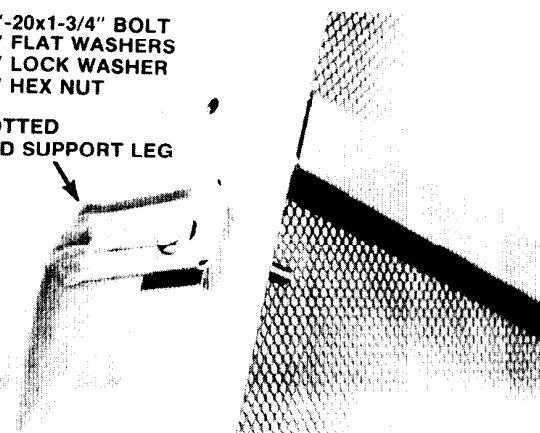

FIGURE 5
**STEP 1:** Attach support legs with slotted holes to rim of reflector at the center of each segment. Attach with 1/4"-20x1-3/4" bolts. Use flat washers on both sides and lock washers under hex nut. Two persons are required for this step. See Figure 5. **\* HOLES HAVE BEEN PUNCHED AT EITHER END OF ONE OF THE QUAD FEED SUPPORT LEGS, SHOULD YOU WISH TO RUN CABLES INSIDE. INSTALL THIS LEG IN THE DESIRED POSITION.**